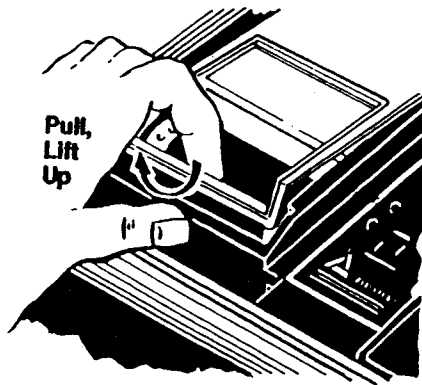

Fig. 3
- a) Remove top cover—pull bottom ledge of frame toward you and lift. See fig. 3 or 4.
2. Remove top cover. See fig. 3.
2. Remove top cover. See fig. 3 or 4. Adjust zero setting with power off and recorder not connected to any voltage or current source. (See Zero Adjusting).